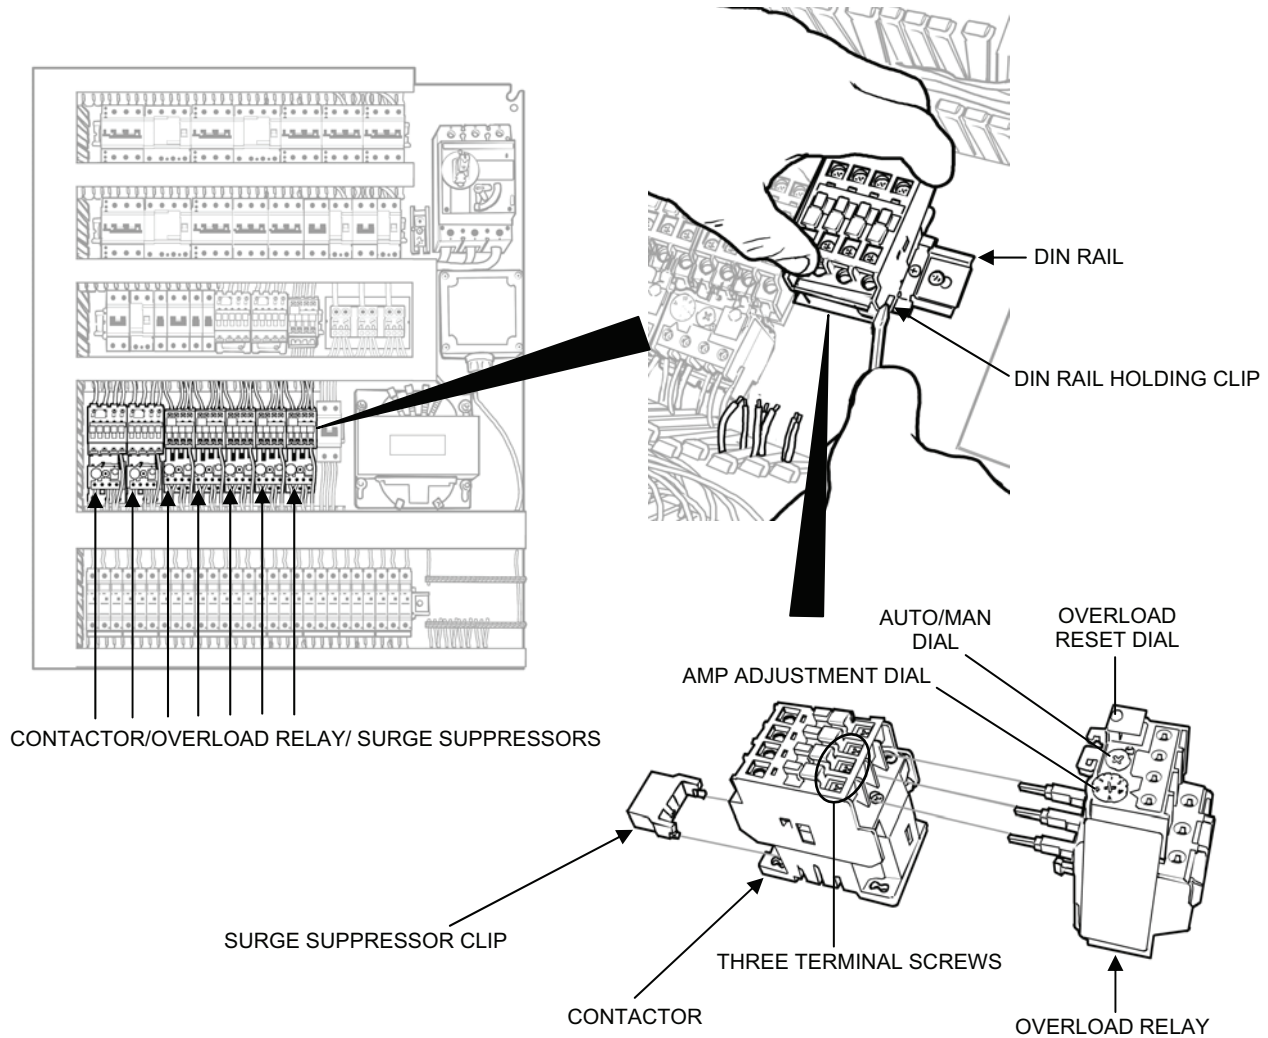

Figure 4. Contactor/Overload Relay/Surge Suppressor Assembly Replacement.
1. Remove a contactor/overload relay/suppressor assembly as follows (see Figure 4):